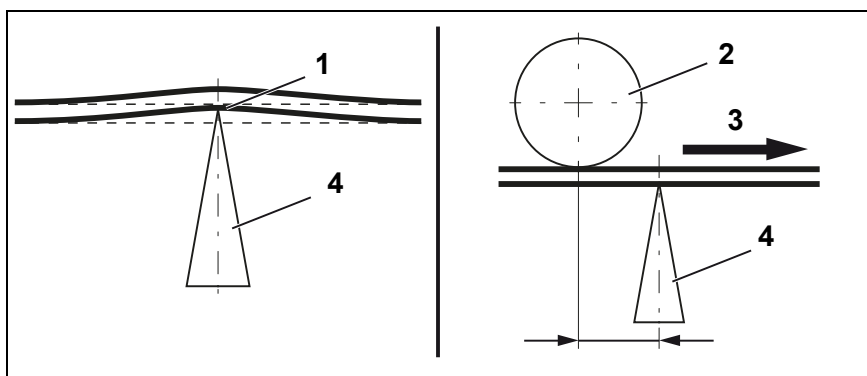

Fig. 26:
4. Loosen the square head screw (18, Fig.26) and the hex head screw (16, Fig.26) of the clamp (3, Fig.26) on the operator side.